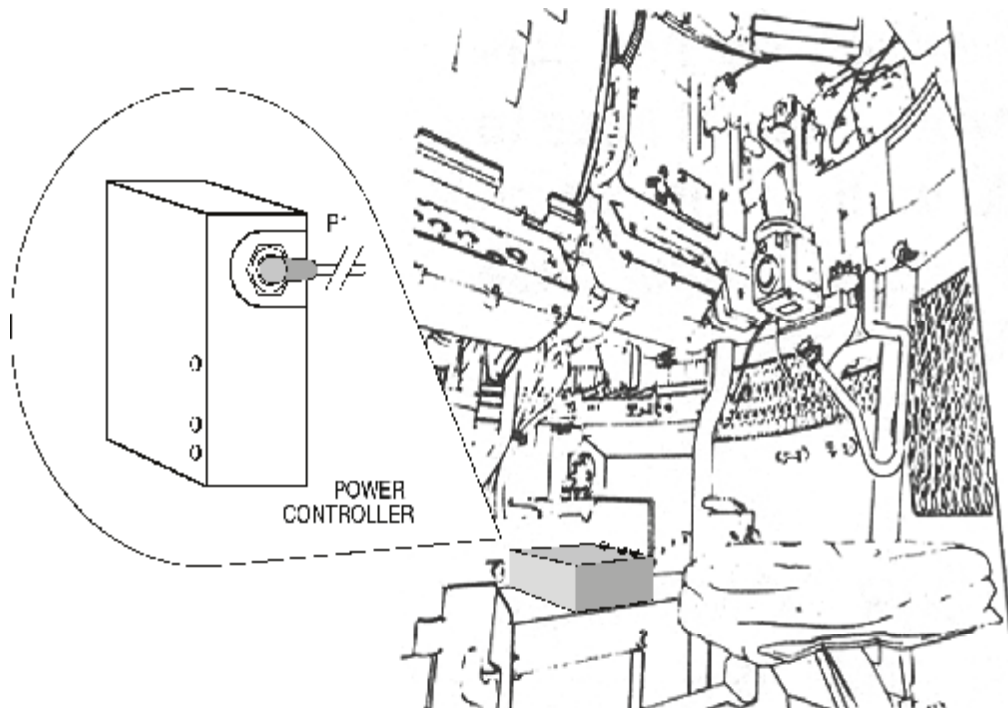

Figure 2-31. M2/M3 Power Controller.
- d. There should be two (2) strips of fastener tape covering the unit. If these strips are not present, apply them using the same method used to apply fastener tape to the vehicle. Refer to paragraph 2.3.2.1.2 for fastener tape preparation.
- e. Attach fastener tape to the top of the HE Ready Box. Mount the Power Controller to the fastener tape and ensure that it is firmly seated. (See Figure 2-31.)